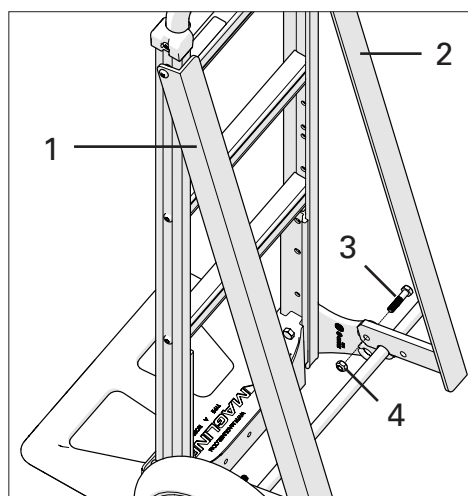

Figure 2
- Insert one 5/16"-18 hex head bolt through the back of wheel bracket and through skid runner. Secure with one 5/16" locknut (Figure 2). *Finger tighten nut for now.